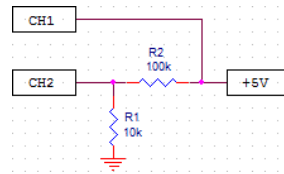

Figure 58: Resistor divider
- 1) Build the circuit shown on figure 58.